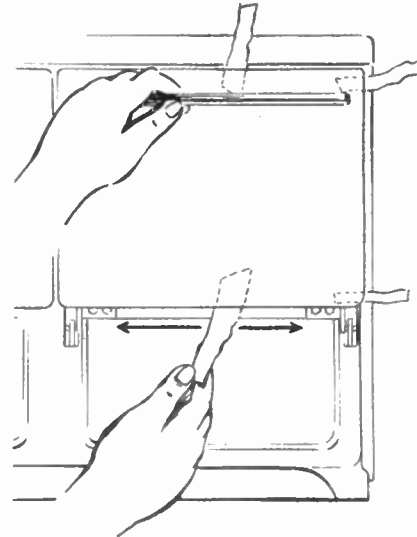

FIGURE 3
3. With door snugly closed, determine if the paper will slide freely from hinge to hinge. (Fig. 3.)